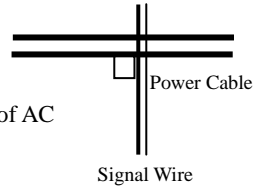

Figure 3-14 System Wiring
- (2) U、V、W Terminals of AC output is recommended to be installed in a metallic cube or metallic cabinet.
- (3) Use shielded cables to connect control terminals. Connect the ground terminal (PE) with shield wire layer and single-end ground it near the wire entrance of inverter.
- (4) Do not use ground wire of other devices as inverter terminal PE. PE must be connected with ground directly.
- (5) It is strictly prohibitive to arrange signal wire(light current) and power supply cable(strong current, namely R、S、T or R、T and U、V、W terminals)in parallel or tie them together. They must keep away at a distance of 20~60 centimeters according to strong current. If interlacement, it is suggested to apply perpendicular through wiring (please refer to Figure 3-14).
- (6) Light current wires such as signal wire and sensor wire and strong current cables must be separately grounded.
- (7) Do not connect input terminals R,S,T or R,T to other devices.